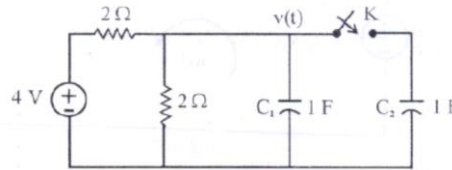

Fig.6.60
33. In the circuit shown in Fig.6.60, the switch K is closed at  $t = 0$ , after steady state is reached. Find  $v(t)$ , given  $V_{C1}(0^-) = 2V$  and  $v_{C2}(0^-) = 0 v$ .